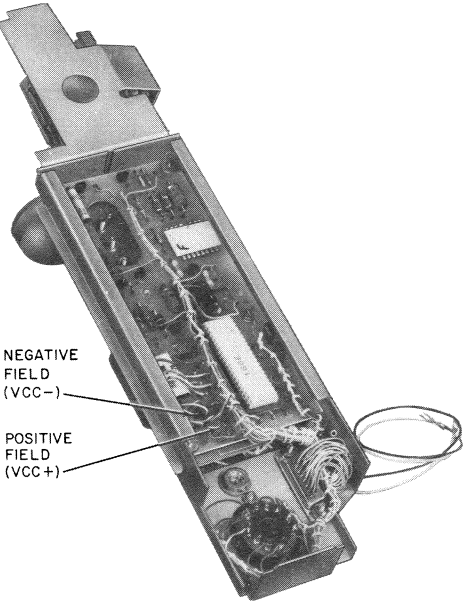

Fig. 5—32A Coin Chassis (Rear View)
2.13 Setting of initial rate is done by inserting one or more leads into the **negative** field (VCC-) (Fig. 5). Six leads, terminated on back side of chassis are color coded and individually plug ended. Each lead represents a specified amount. These plug-ended leads are pressed on the tubular connectors to establish an initial rate setting.